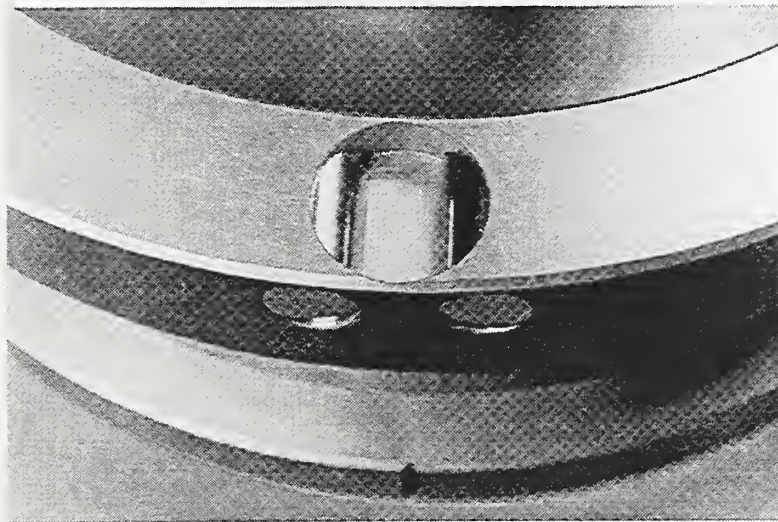

Figure 2. Indexing seats in base unit (pneumatic indexing units only)
8. **INSPECT** the 16 cylinders comprising the indexing seats to assure no debris is present (refer to Figure 2 on page 3). Remove visible debris.
NOTE: Inspect the indexing seats for debris (refer to Figure 2 on page 3). Remove or clean any contamination.